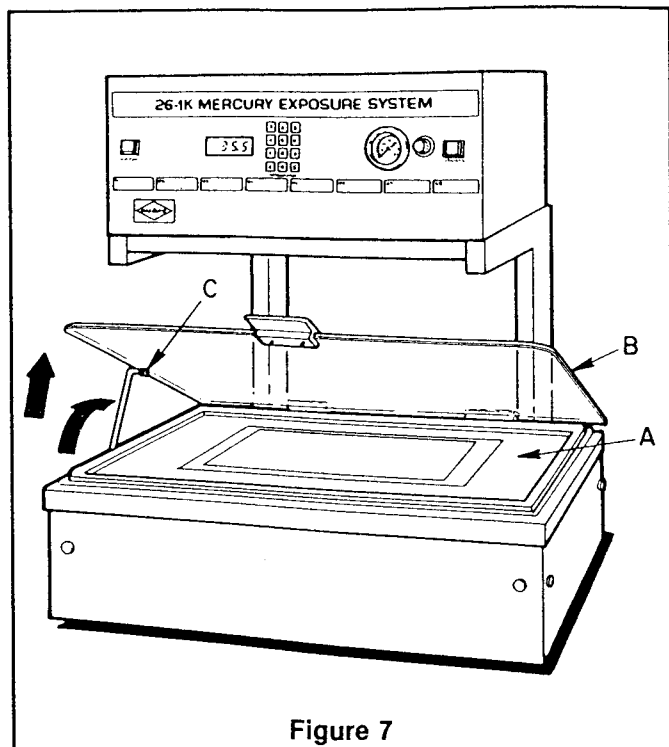

Figure 7
1. To load the vacuum frame (A-Fig. 7), raise the vacuum glass (B-Fig. 7) and push the glass support lever (C-Fig. 7) back as far as possible. Let glass rest on the support lever. Load the materials to be exposed, then close the glass.